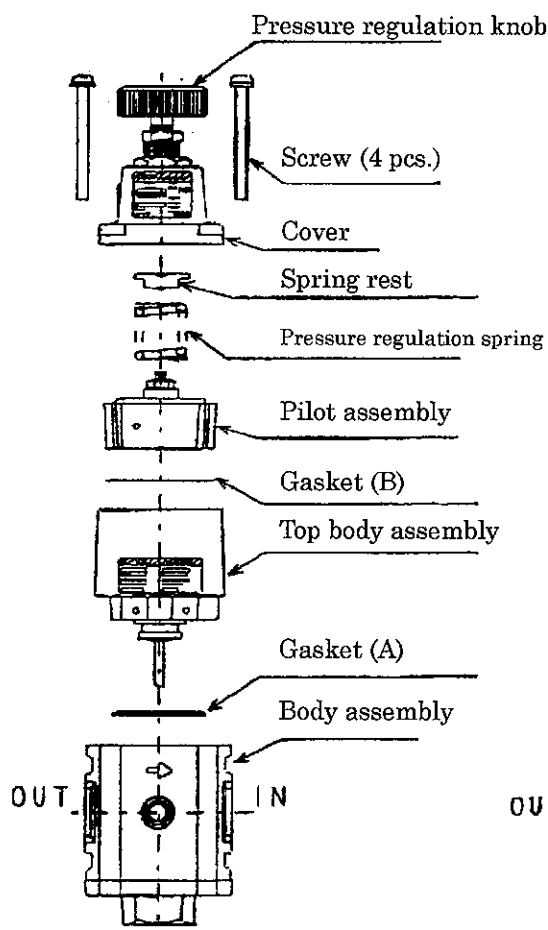

Fig. 1 Disassembly and assembly diagram
2. When four screws are removed from the cover using a Phillips screwdriver, the product can be disassembled as shown in Fig. 1.
1. Assemble the components in the reverse order of disassembly. Assemble the components while referring to Fig. 1.